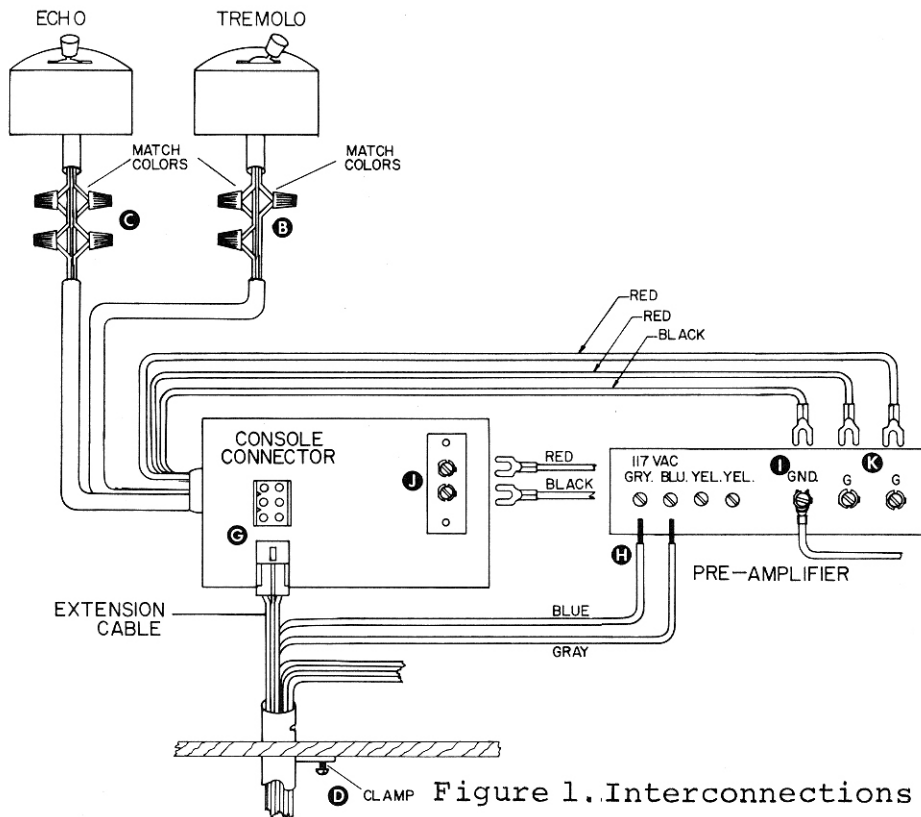
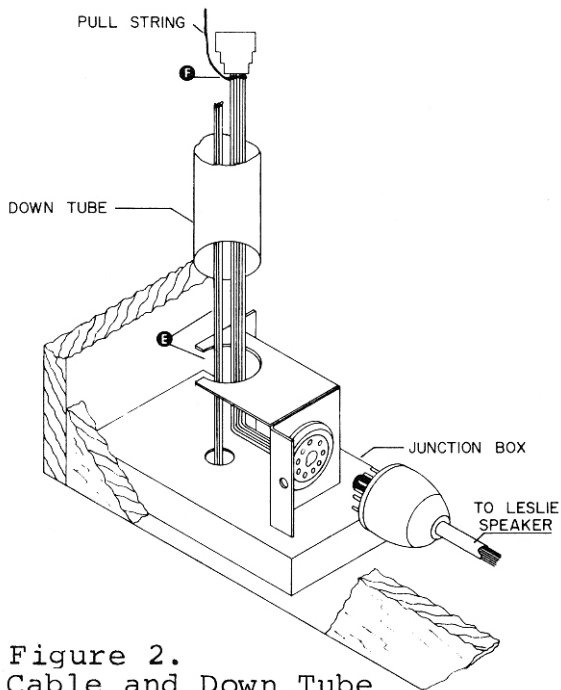

Figure 1. Interconnections
Figure 2.
5. Connect the three wires from the tremolo control to the correspondingly colored jacketed wires from the console connector, using wire nuts. (B, figure 1)
6. Connect the four wires from the echo control to the correspondingly colored jacketed wires from the console connector, using wire nuts. (C)
7. Locate the "down tube" in the organ. Remove the screw from the locking clamp which holds the down tube (on top of the junction box). Slide the tube up approximately three inches. (D)
8. Guide the wires that are in the down tube through the opening in the extension chassis. (E, figure 2)
9. Drop a string through the down tube and tie the string around the plug of the extension cable. (F)
10. Pull the cable up the tube and into the tone generator section of the organ. Remove the string. Insert the plug into the appropriate socket on the console connector. (G, figure 1)
11. Connect the blue and the gray extension cable wires to the 117V AC terminals behind the protective cover on the organ preamplifier. (H)
12. Fit the down tube into the opening in the extension chassis. Mount the chassis, using the bronze colored wood screws from the kit.(figure 2)
13. Connect the black wire from the console connector to the GND terminal on the organ pre-amplifier. (I, figure 1)
15. Connect the two red wires from the console connector to the G terminals. (K)